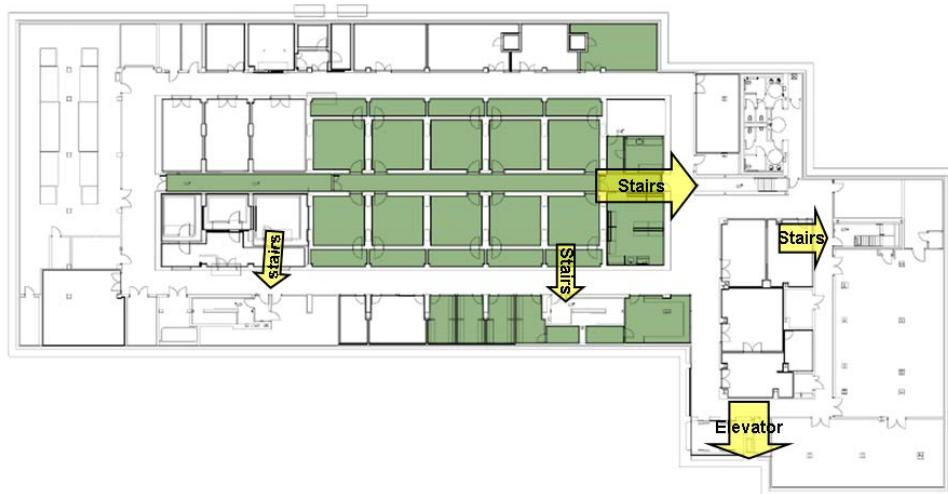

Figure 6: Évacuation routes, LISE basement.
- The NFPA “fire diamond” (Fig. 6) is a visual notification standard maintained by the US Fire Protection Association.